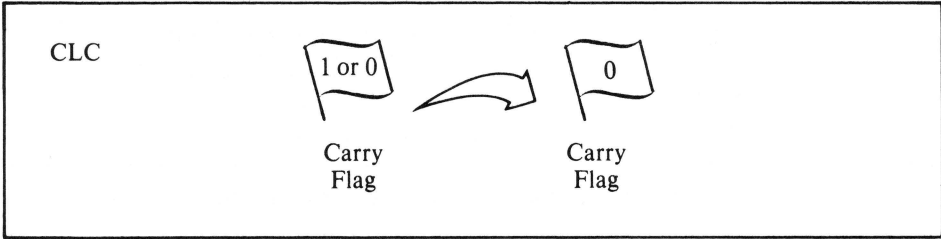

Figure 9-7. Clear Carry flag
- **CLC** — Clears the value of the Carry flag, making it 0 (see Figure 9-7).